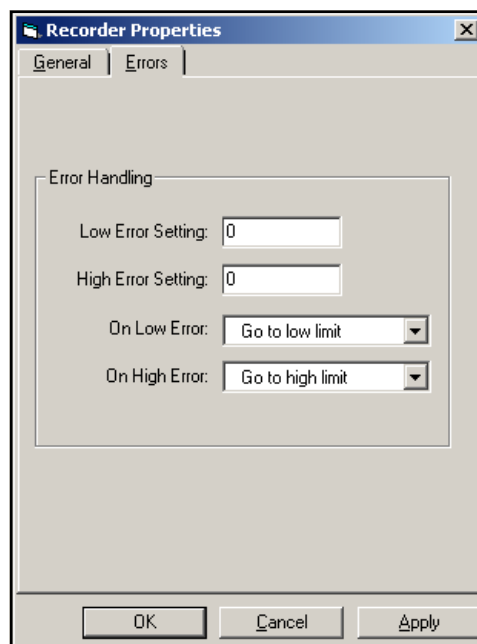

Figure 49: Recorder Errors
6. Next, click on the **Errors** tab and select the Error Handling schemes for the **On Low Error** and **On High Error** cases from the drop-down menus. Then click on **Apply** (see *Figure 49* below).